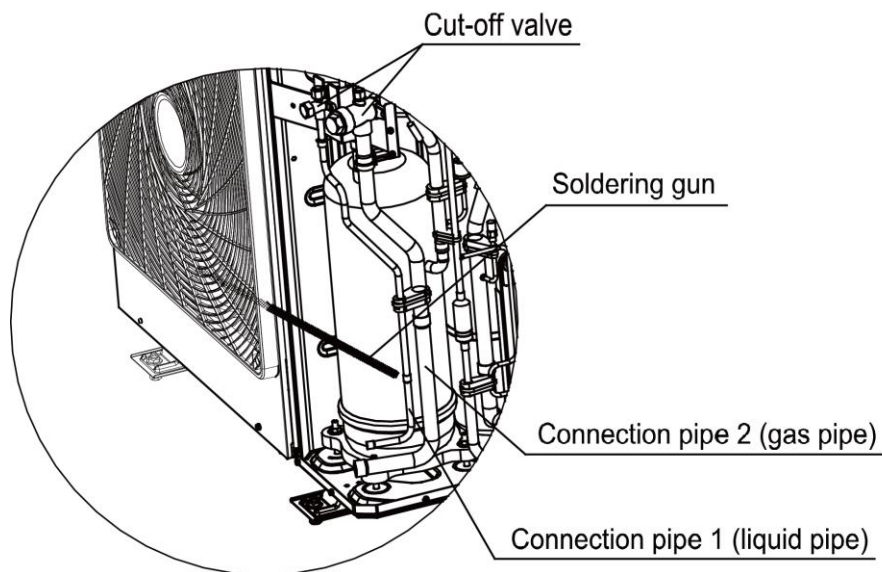
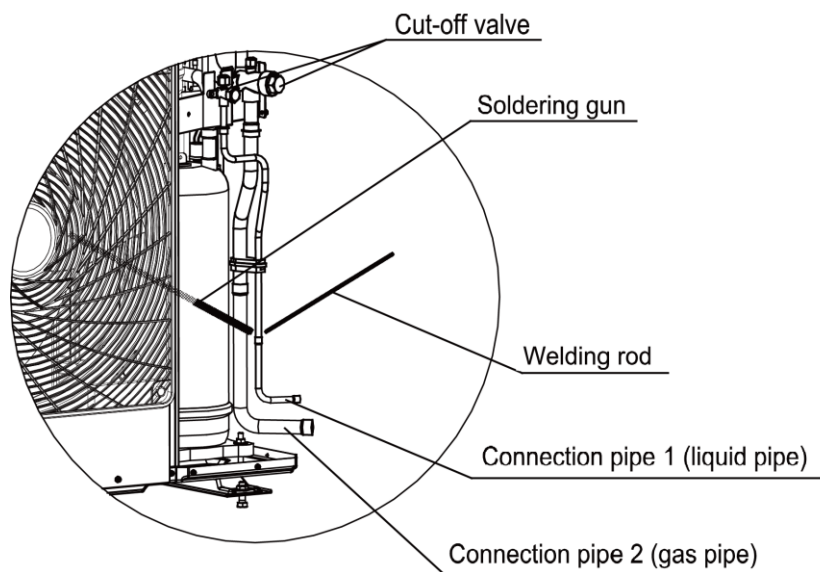

Fig. 17
Fig.18
- 2) If connection pipe is connected at the side as shown in Fig.17 and Fig.18, open the front side plate, rear side plate and connection board. Then open the soundproof cotton. Use a soldering gun to unsolder connection pipe 1 and connection pipe 2. Rotate them to a proper angle and install them to their respective position. Seal the apertures with welding rod. First weld connection pipe 1 (liquid pipe) and then weld connection pipe 2 (gas pipe). During welding, it's necessary to use wet gauze to wrap up the filter near connection pipe 2 and the two cut-off valves. Make sure the flame won't burn the soundproof cotton or other components.